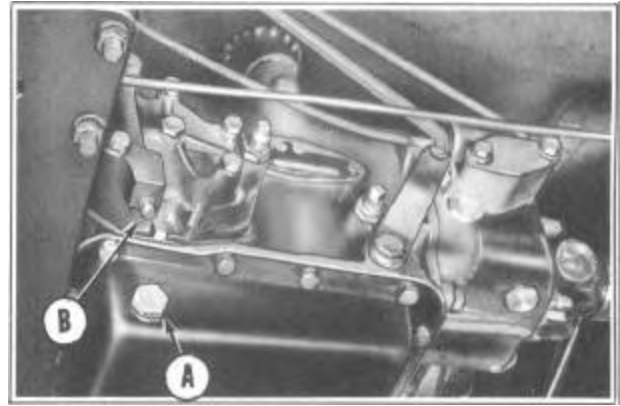

FIGURE 143
2. Stop the engine, remove the transmission oil pan drain plug (A), Figure 143, at left side of transmission and drain transmission.
4. With converter drain plug removed, rotate flywheel until drain plug in converter is at bottom and remove converter pressure take-off plug (B), Figure 143; this plug is at the bottom of the reverse servo cylinder. The fluid will drain through the converter housing dust pan.